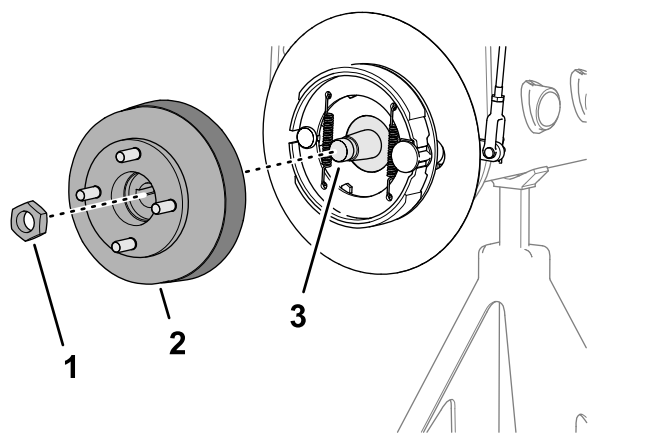
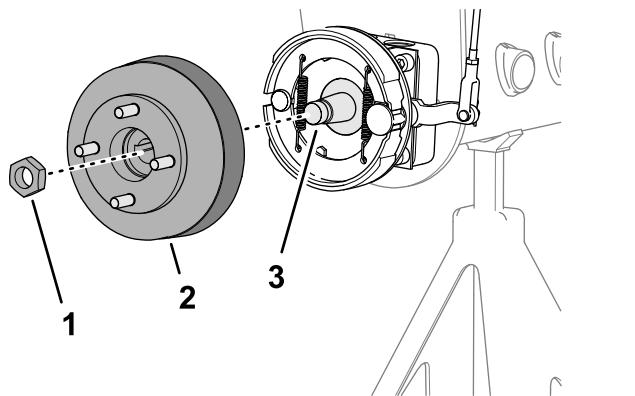

Figure 78
Figure 77
1. Remove the locknut that secures the hub to the wheel-motor shaft (Figure 77 or Figure 78).
4. Use the specified wheel hub puller to remove wheel hub and brake drum from the wheel-motor shaft (Figure 77 or Figure 78).